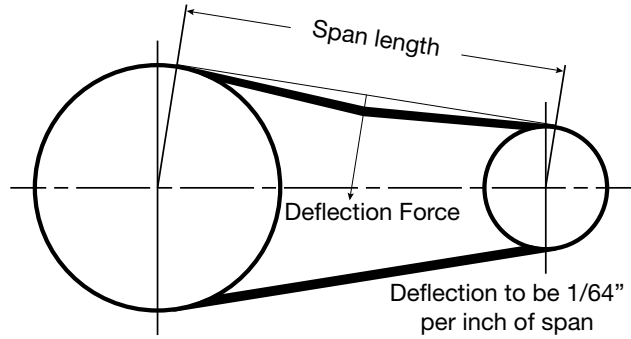

Fig 27 - Tension calculation
72. Slightly loosen the two flange bearing bolts (4) on the speed reducer shaft.
73. Use hand pressure to push on the belts halfway between the pulleys. See Figure 27